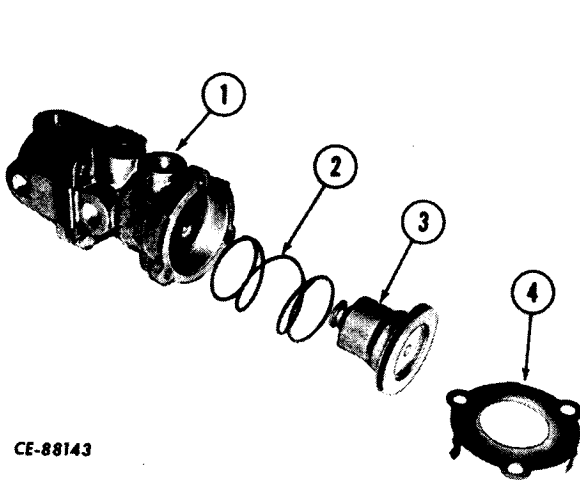

Figure 13-33
BOTH VALVES - Depress primary piston assembly (3, Fig. 13-33) and remove retaining ring (4). Remove piston assembly and spring (2) from upper body (1).